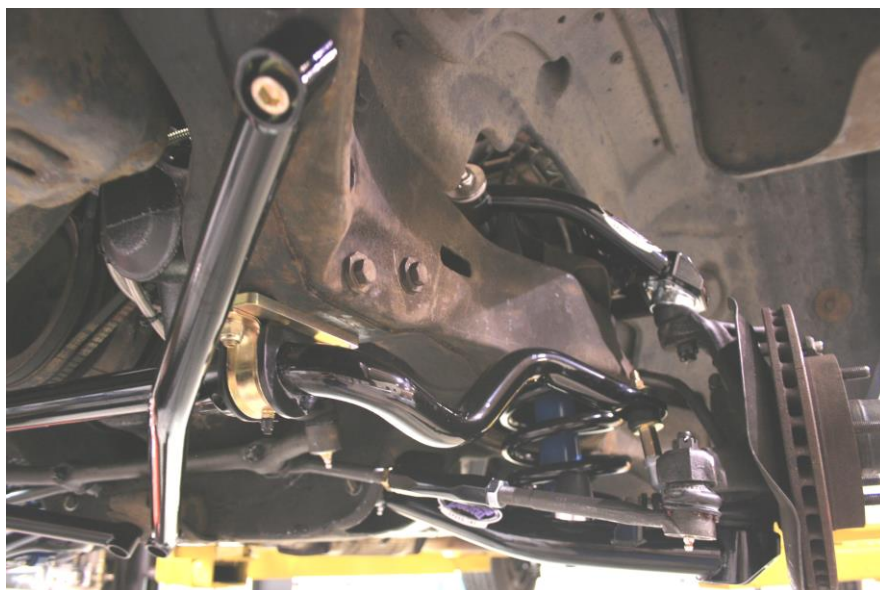

Figure 4 – Completed Installation
9. Reinstall the front wheels and torque to the manufacturer's recommended torque specs. Lower the vehicle to the ground. The finished installation should resemble Figure 4.